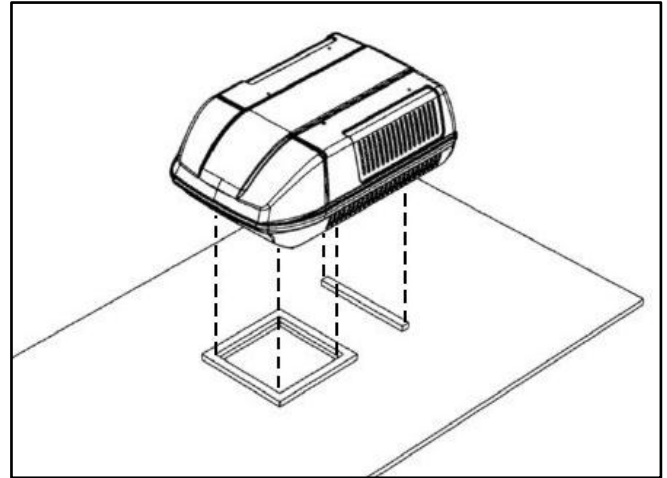
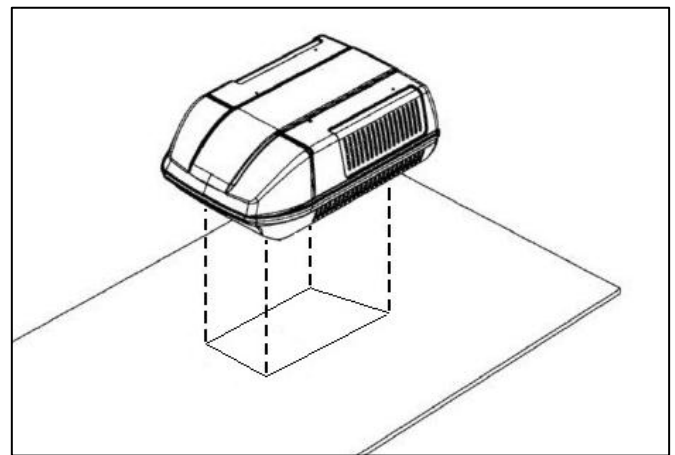

Fig 6- Preferred Method: Gently set the unit over the roof gasket which is attached and sealed to the roof.
Fig 6a- An Alternate Method: First attach and seal the roof gasket to the bottom of the roof unit and then gently set unit over the hole in the roof.
- Mount the air conditioner on the roof with the roof gasket using either Fig 6 or Fig 6a.